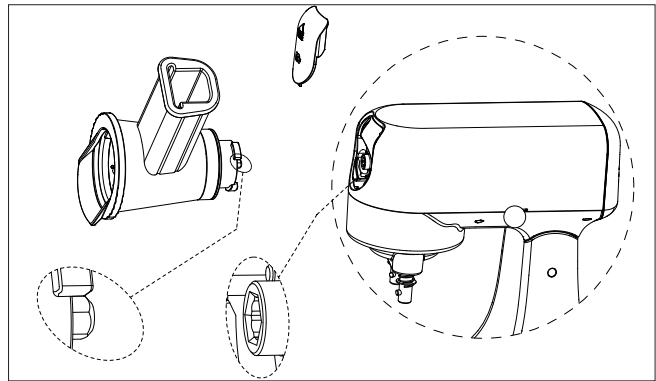

Fig. 25 – Fitting the vegetable attachment
- At this point, the filling opening of the vegetable cutter attachment points to the right (see Fig. 25).